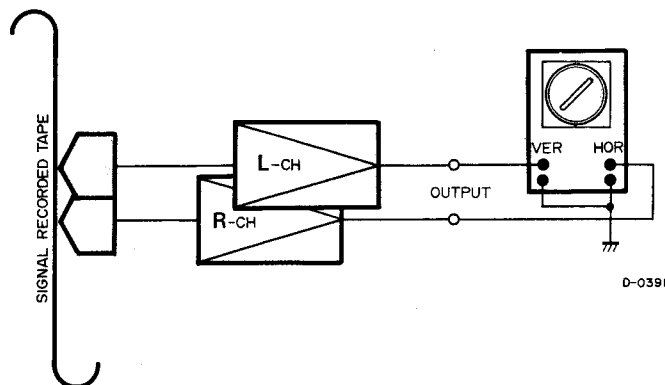

Fig. 7-10 Fine Adjustment Set-Up -Head Azimuth-
7. Connect the test equipment as shown in Fig. 7-10